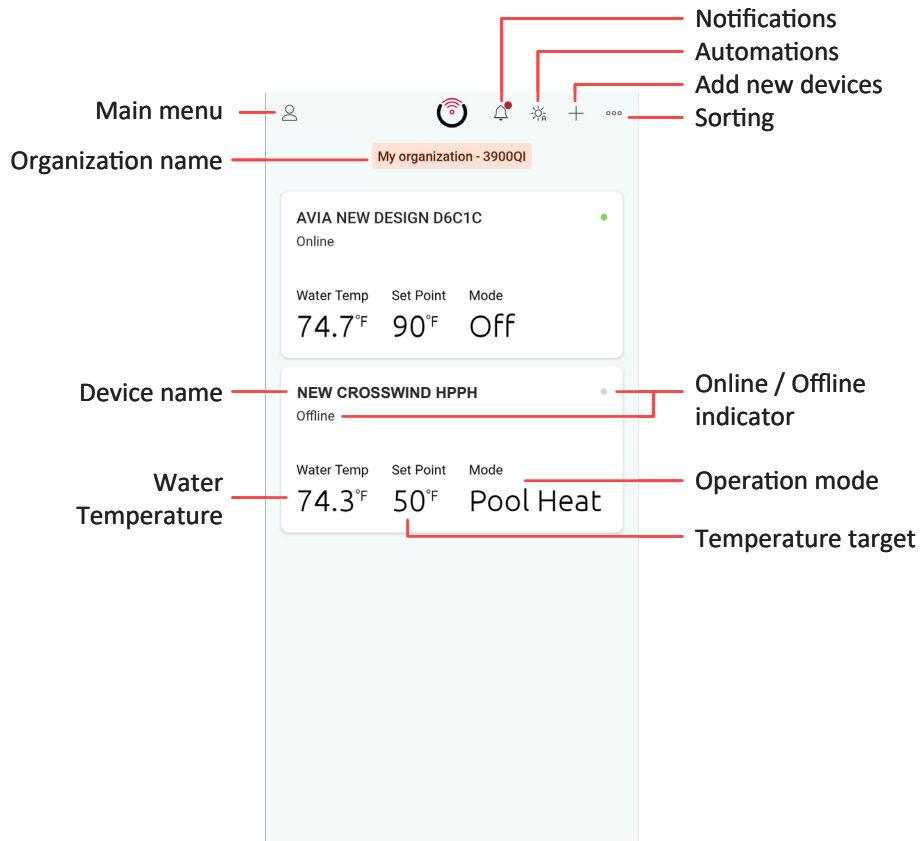

Figure 56. Main View - Heaters List
- Raymote organization list can handle 1 or multiple Commercial and Residential Raypak heaters equipped with Raymote. See **Figure 56**.